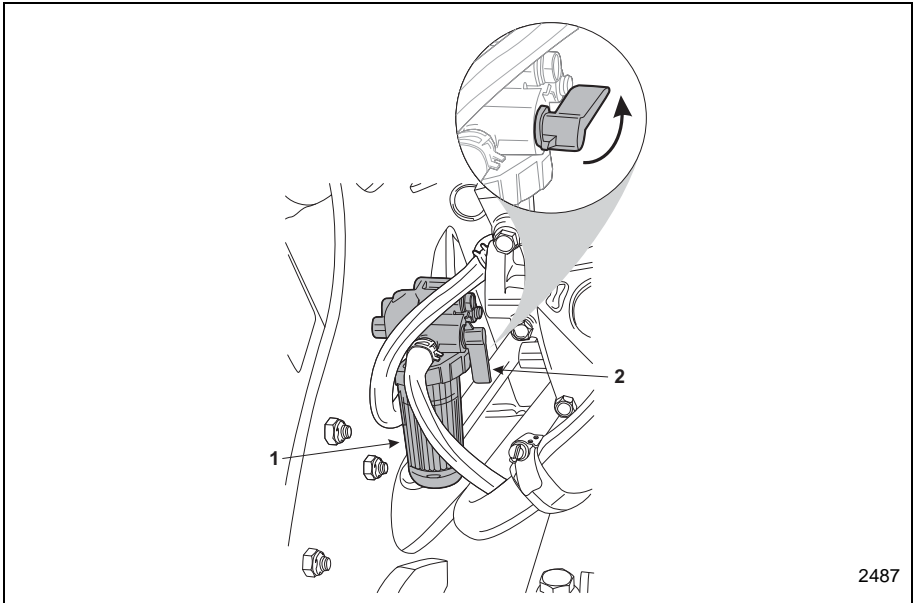

Figure 3-6 Engine Fuel Filter/Water Separator
6. Check the fuel filter/water separator to make sure that there is no water in the filter bowl (Item 1, Figure 3-6).
1. Rotate the fuel shut off valve (Item 2, Figure 3-6) to stop the fuel flow from the tank.
3. Rotate the filter bowl (Item 1, Figure 3-6) and remove it from the filter assembly.